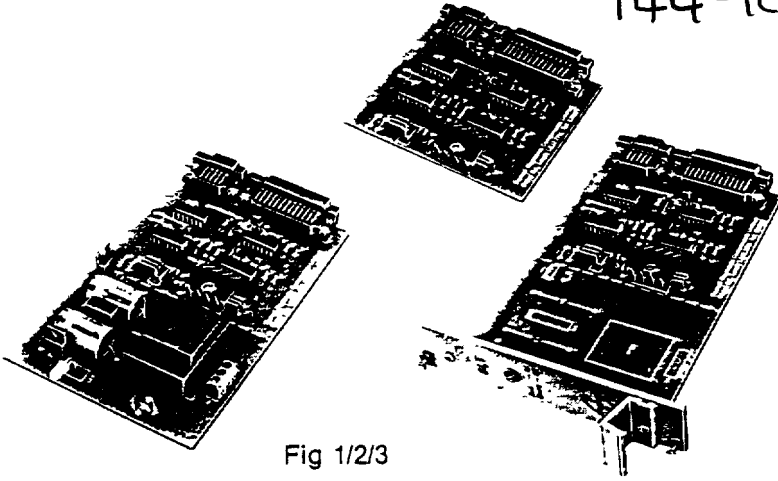

Fig 1/2/3
- (a) Stand alone with its own on board mains power supply. See Fig 1